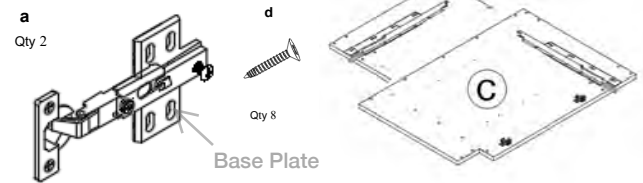

Figure 2
2. Install Hinge base plates (a) onto side panel (C) into designated holes using screws (d). Install glides onto side panels. (Figure 2)